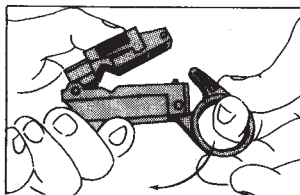

FIGURE 3
**B. OPEN TOOL** by rotating locking latch downward. (Fig. 3)